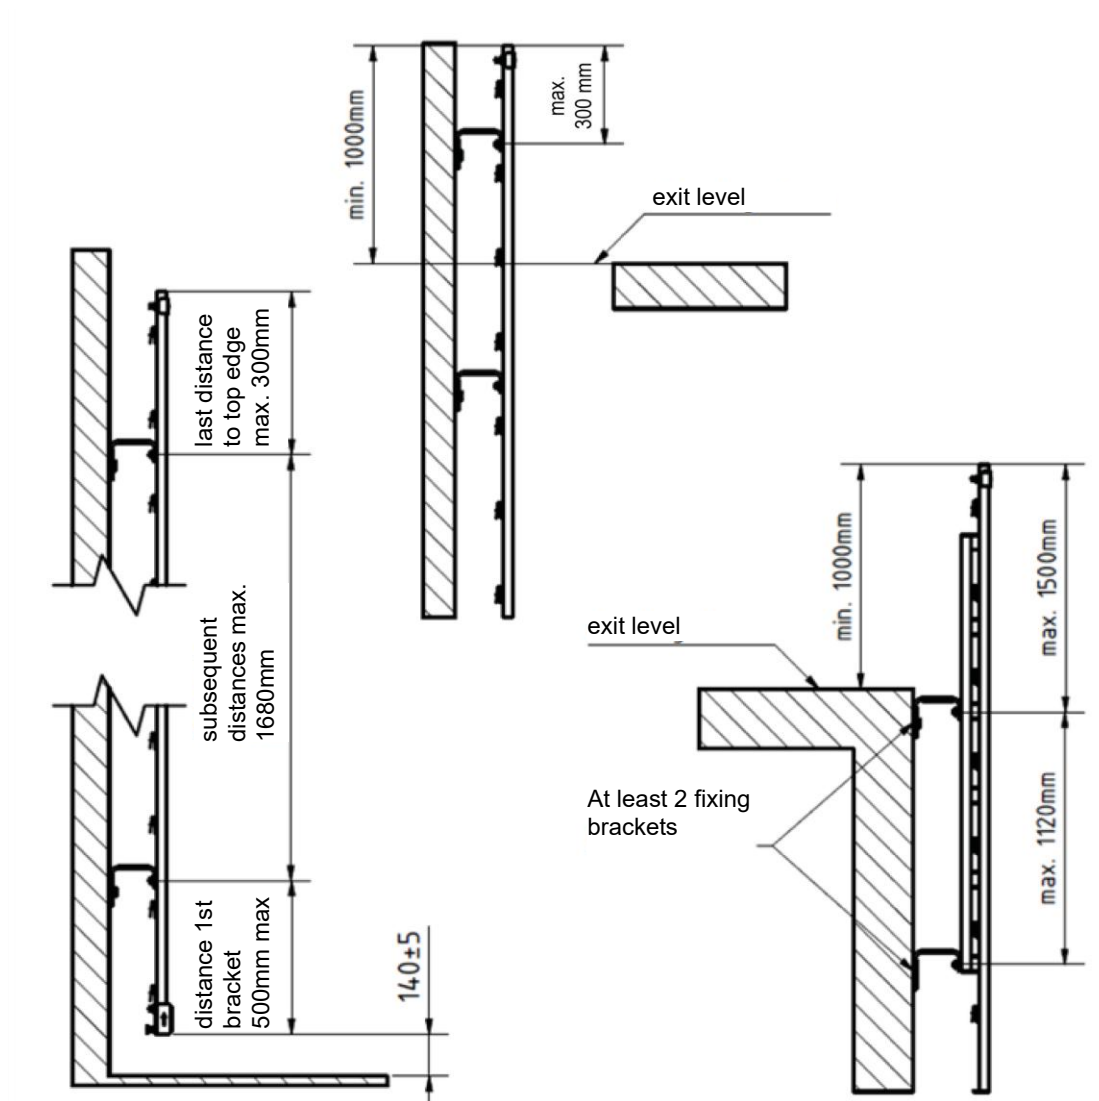

Figure1 : Installation Dimensions
- For structural reasons, ladder overhangs of more than 300 mm must be reinforced with a stringer. See Fig. 1.